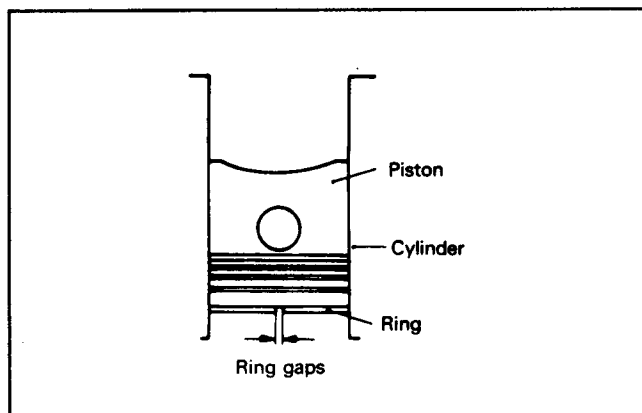

Figure 96
10. Measure the piston ring end gap. Insert the ring into the least worn area of the cylinder by pushing it into place with the piston (Fig. 96). If the gap exceeds 1.5 mm (0.060 in.) the ring must be replaced.